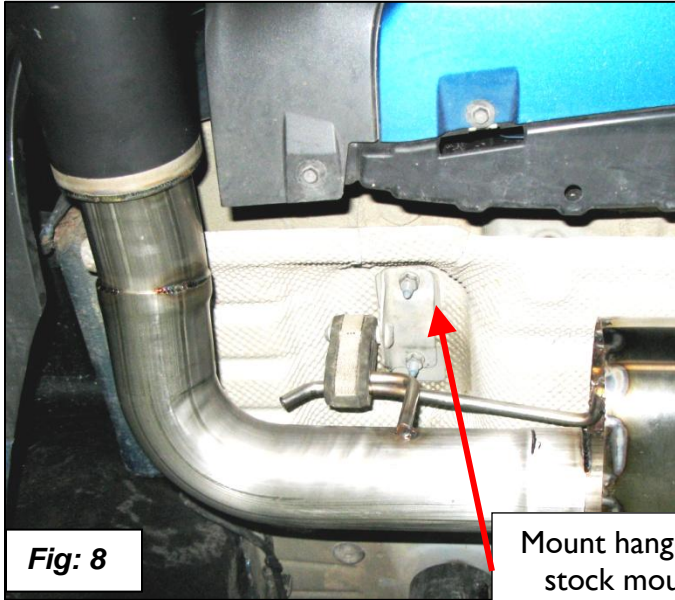

Fig: 8
8. Mount both muffler hangers using the stock mounting nuts that were saved from removal of the stock muffler. Torque the nuts to **14 ft-lbs (19 Nm)**. See Figures 8 and 9.